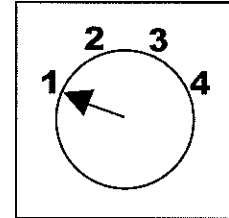

Figure 1 – 4 Voltage Setpoints
- Before installing, turn regulator over and select appropriate voltage setpoint for battery type (See Table 1 and Fig. 1).